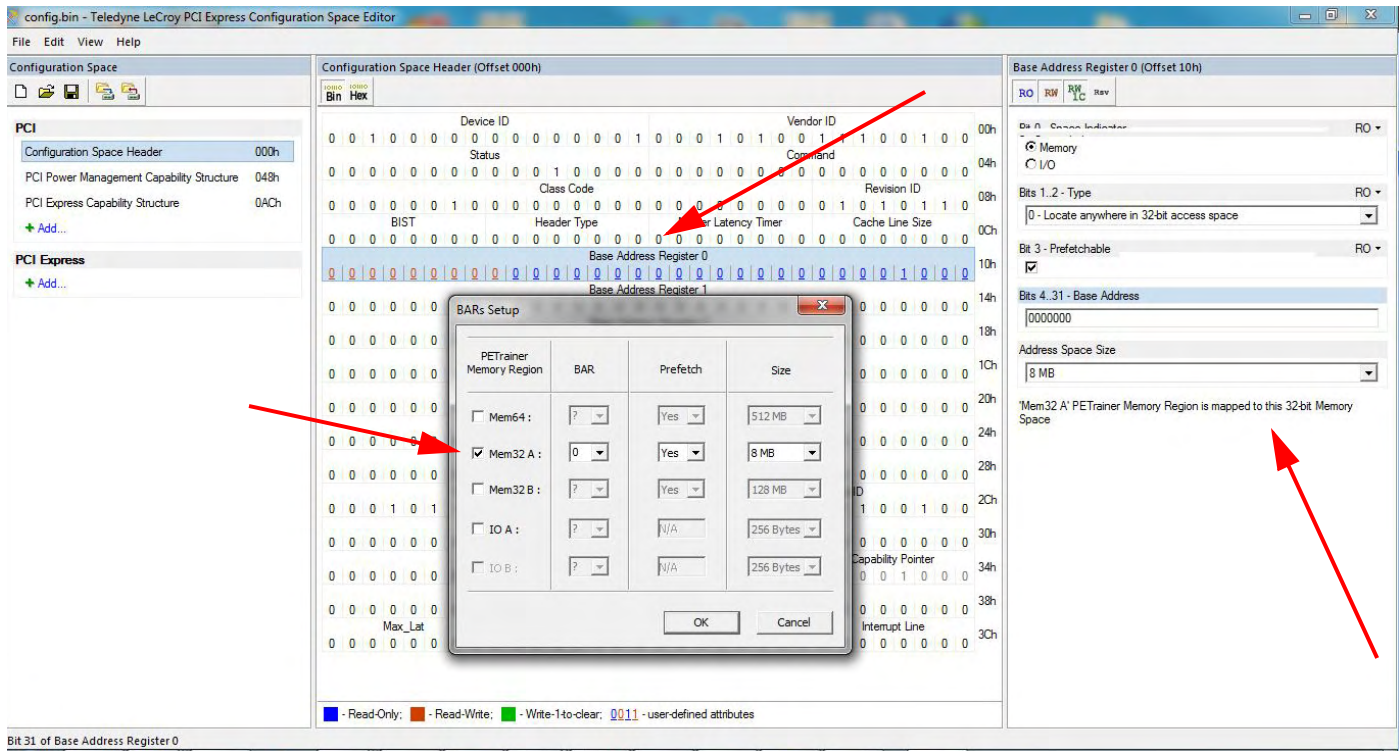

Figure 7.3: Generation Options - Transactions Tab.
5. Select **Tools > Configuration Space Editor**, to open the Configuration Space Editor dialog (see Figure 7.3 on page 95).
6. Click **Edit > BARs Setup...** to display the BARs Setup dialog (see Figure 7.3 on page 95).